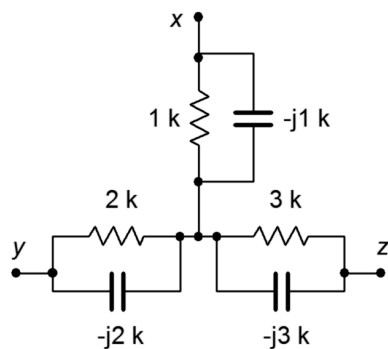

Figure 5.33
59. Determine the equivalent delta (pi) network for the circuit of Figure 5.33.